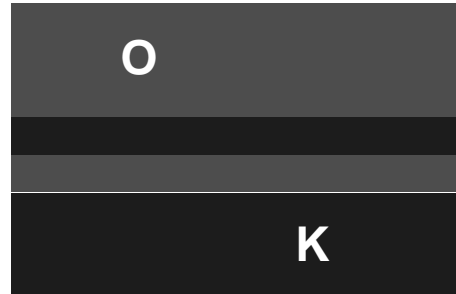

Fig.1
- (1) Input 3D test signal as Fig.1.